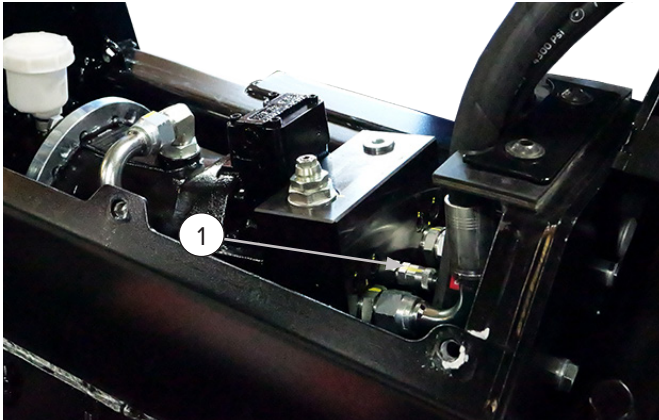

Figure 10
2. Attach the pressure gauge to the MP port (see **Figure 10**, Item 1).